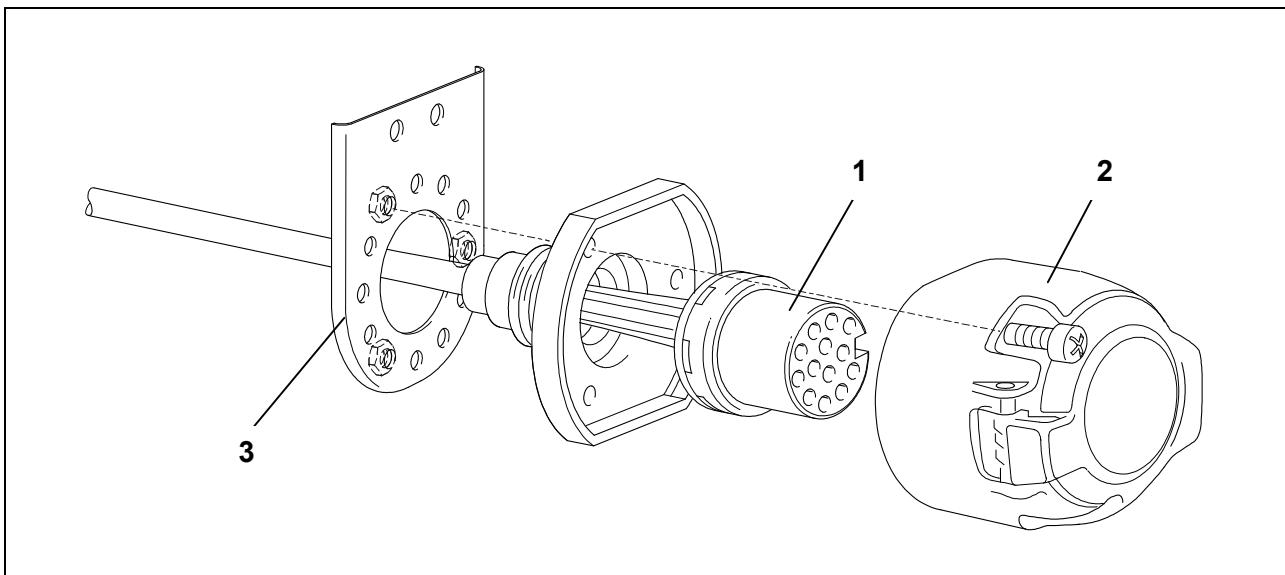

Fig. 2: Fitting Socket
7. Press contact insert (fig. 2/1) into socket housing (fig. 2/2) and push rubber seal up to the socket.
8. Secure socket to retaining plate (fig. 2/3) using the pre-fitted screws, torque setting: max. 2.0 Nm.